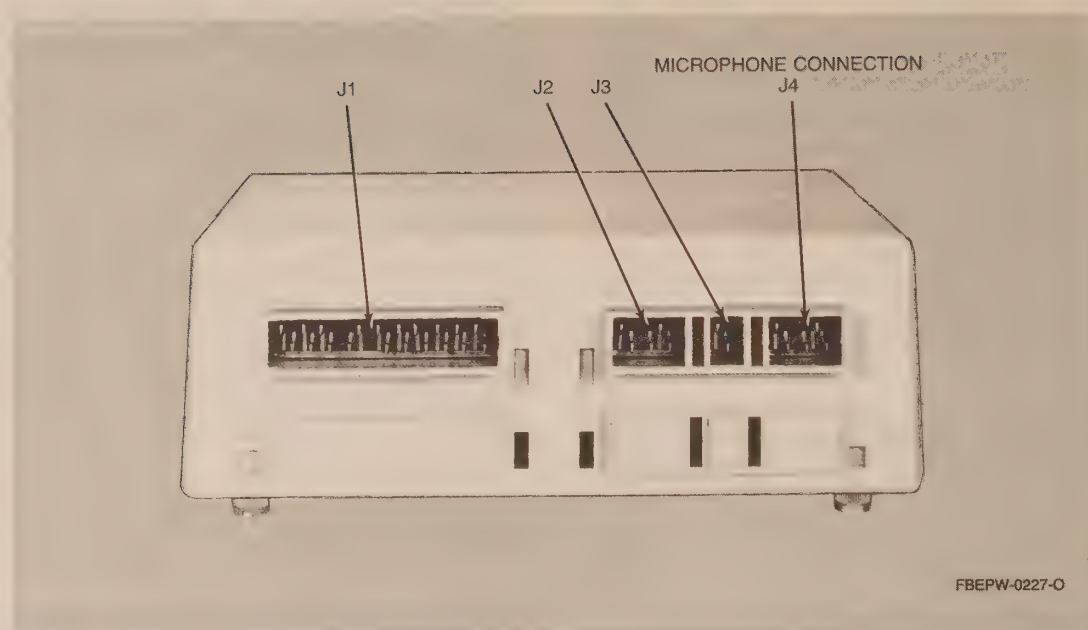

Figure 4. Microphone Connection
Figure 4 shows the location of jacks for Steps 17 through 19.
Figure 4 shows the locations of jacks referred to in Steps 4 through 6.
- (6) Connect the microphone to J4 on the *MVS-20* circuit board. (See Figure 4.)
Figure 4 shows the jacks referred to in Steps 16 through 18.